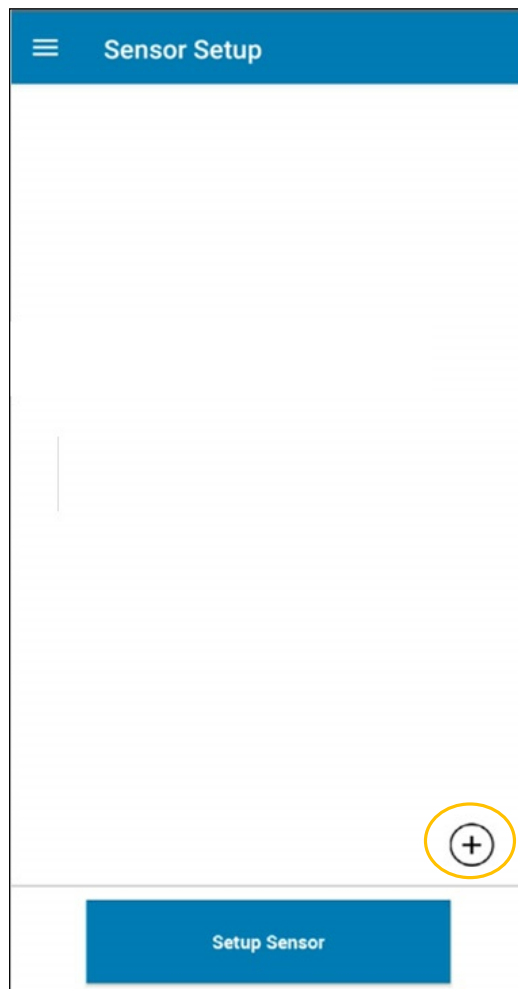

Figure 5-10
1. On clicking 'Setup Sensor' button to configure the sensor settings, in digital node a page with a + sign button will appear as shown in figure 5-10. Click on the + button to configure the sensors.